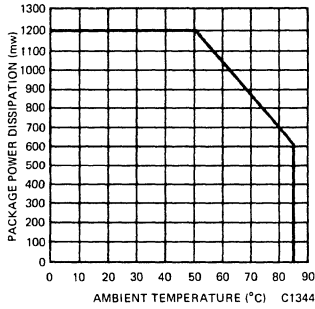

Fig. 4. Max. Tolerable Power Dissipation
- If operating temperature is above 50° C, then power dissipation must be derated. Using Derating Factor of -17.1 mW/°C for total package: Or see Fig. 4.